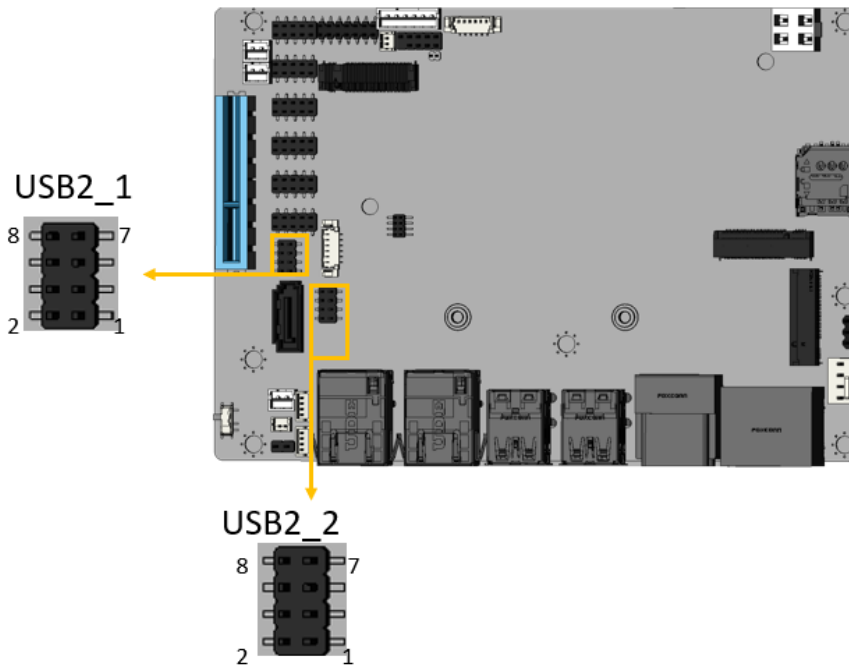

Figure 3-25: Internal USB 2.0 Connectors Locations
- CN Location:** See Figure 3-25